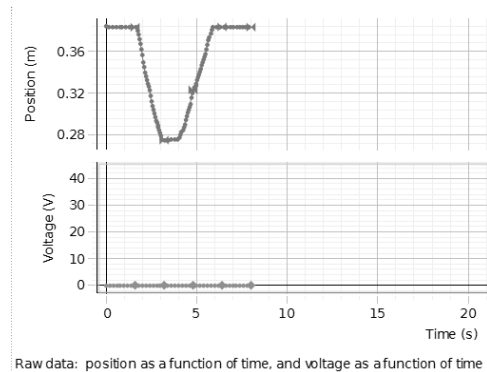

Figure 11: Screenshot of motion sensor test data.
13. Verify that the data shown on the position-vs-time plot in the upper left window corresponds to reality. Look for "outliers"—single data points that are grossly wrong—or other sudden jumps. If you find any, reorient the motion sensor and try again. Do not stop until you have no spurious data. Your data should look something like Fig. 11.